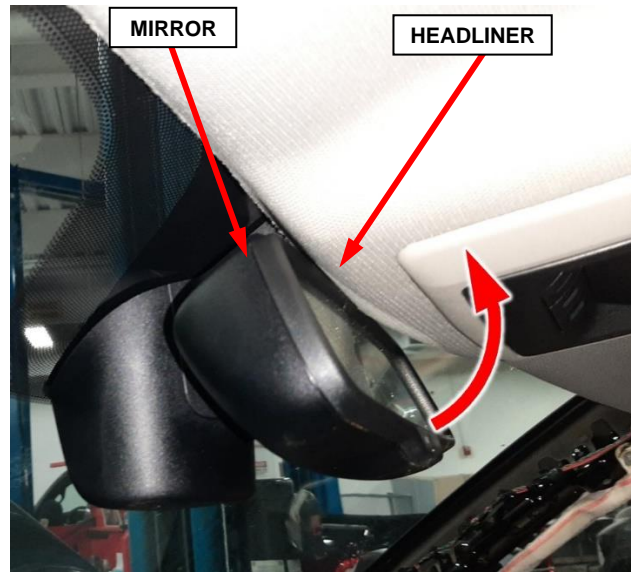

Figure 50 – Rearview Mirror
22. Tilt the rear view mirror up to allow clearance for lowering the headliner (Figure 50).
38. Tilt the rear view mirror down to allow it to support the headliner (Figure 50).